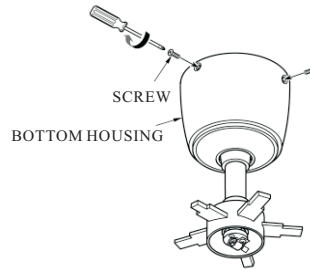

FIG.9
6. Move motor housing up over motor + mounting plate and secure with the 3 screws. (see fig.9)